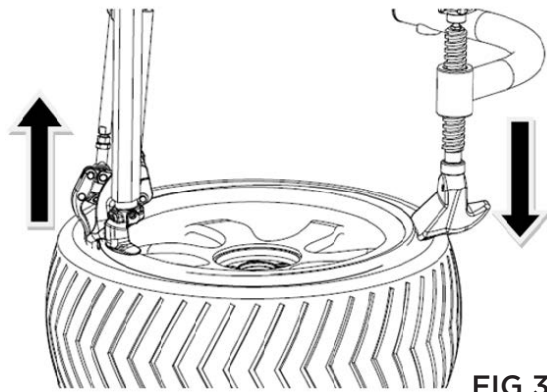

FIG 31
- If the demounting hook cannot lift the tire lip because of the harder RSC tire during lifting the tire lip, can press the tire using assist arm. The pressing block can press down 4-8cm on the opposite side of the demounting head, which helps the demounting hook to lift the tire lip smoothly like **FIG31**.